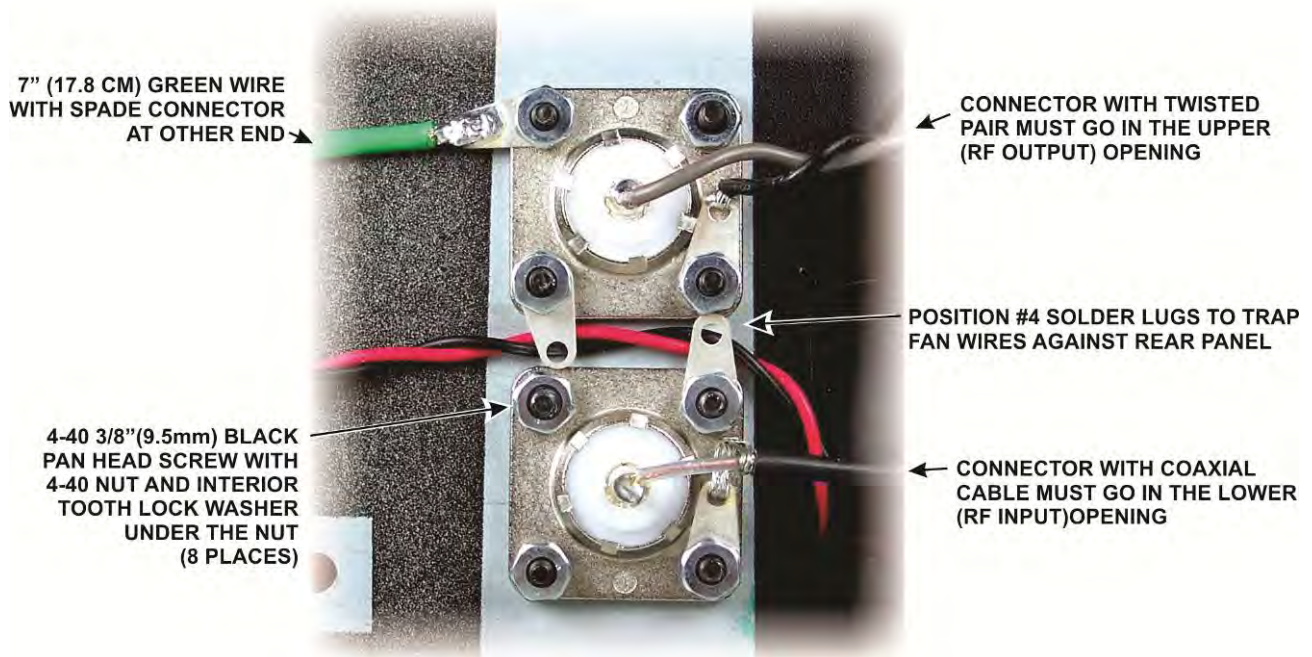

Figure 20. Installing the RF INPUT and RF OUTPUT Connectors.
□ Install the RF INPUT and RF OUTPUT connectors as shown in Figure 20. Be sure you put the connectors in the correct holes as indicated. Also, note that the connectors have a “flat” on opposite sides of the threaded sections. Recommend you orient the connectors with the flats on the sides for the most pleasing appearance.